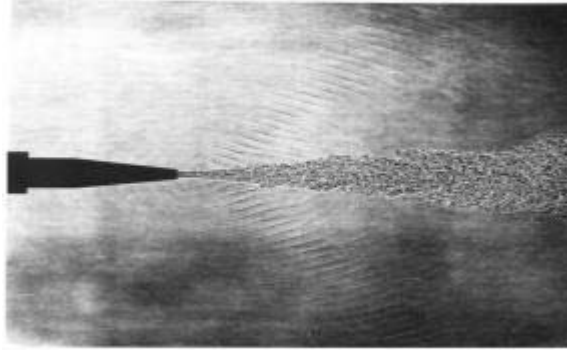

Figure 4
Internal leakage for example that may aggravate wear at some point can be correlated now because the ultrasonic instrument can hear the hidden sound of the turbulent flow and display it in the analyzer together with the frictional sounds. Mysterious failures now can be found and corrected. Figure 4 is a typical "leak" that can be found internally or externally in machinery.
1. An Album of Fluid Motion. Van Dyke, Parabolic Press Figure 4 is picture number 275